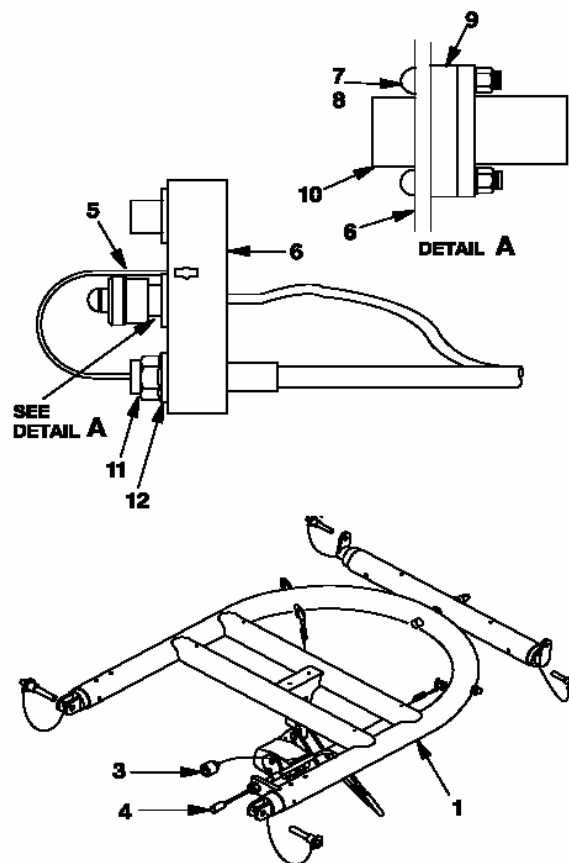

Figure 8
- i. Remove Cargo Handle, Cables. (See Figure 8.)